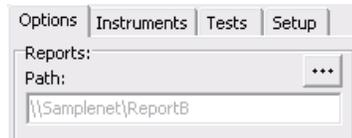

Figure 15: Reports Path
1. Click  located above the **Path** field (Figure 15).